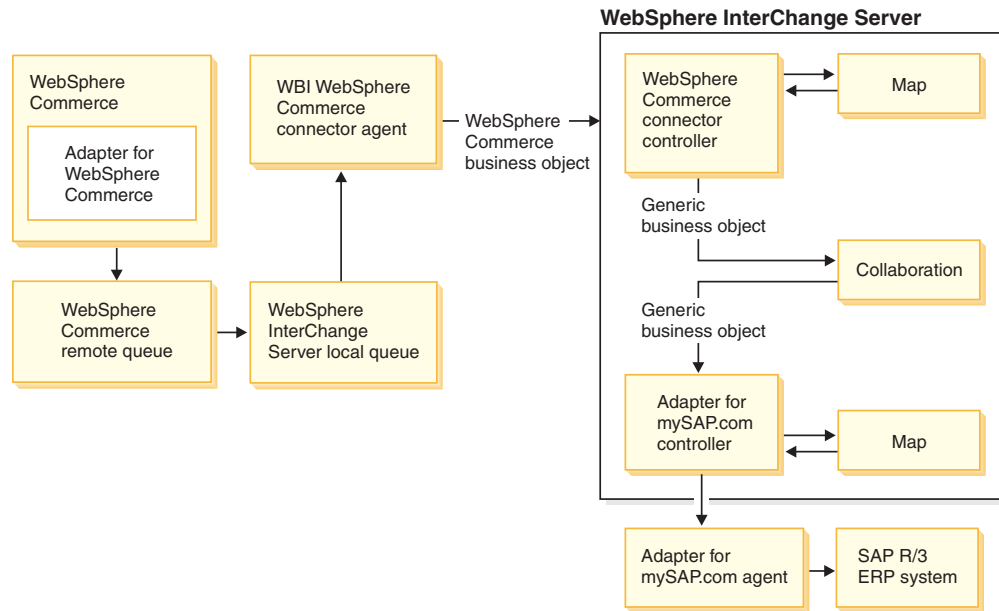

Figure 1. Asynchronous message flow from WebSphere Commerce
1. The OrderCreate message in XML format is generated and placed in the WebSphere Commerce remote queue (WebSphere MQ queue) as shown in Figure 1 on page 8.